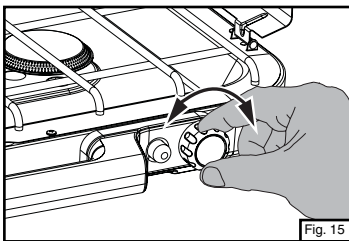

Fig. 15
- Adjust flame with burner valves. (Fig. 15) Flame should be blue with a hint of yellow on tips.